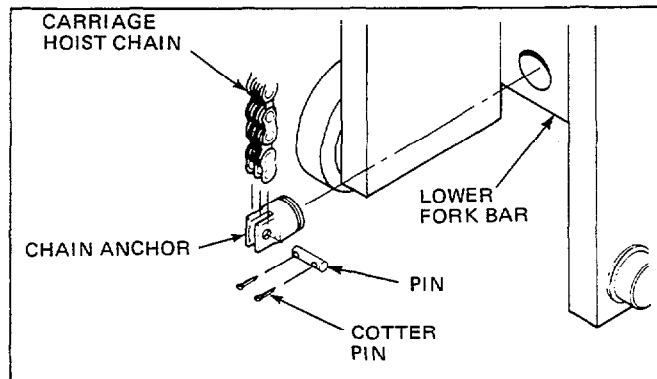

Figure 42. Carriage Hoist Chain Anchor
- Roll the carriage hoist chains over the crosshead sheaves and connect the chains to the carriage lower fork bar. See Figure 42.